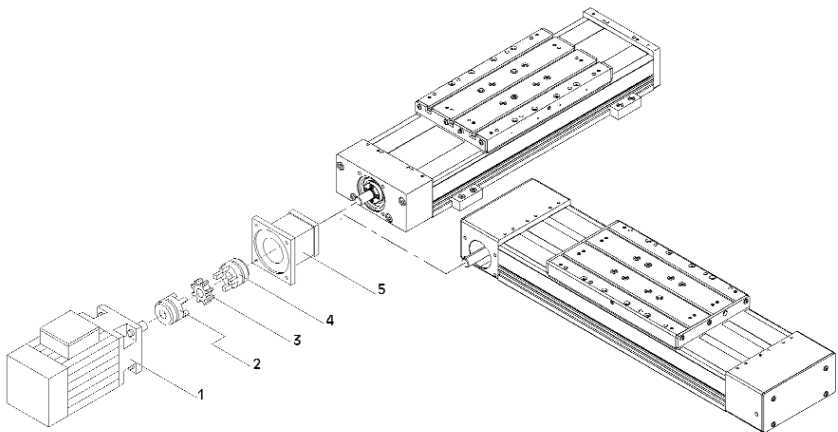

Fig. 9
- Fig. 9:** Place the motor (1) in mounting position beside the linear drive unit.
- Attach the coupling half (4) to the shaft of the linear drive unit.
- Attach the motor adapter flange (5) to the fixed bearing housing (6) with four screws.
- Push the toothed wheel (3) onto the coupling half on the linear drive unit.
- Mount the second coupling half (2) on the drive shaft of the motor.
- Attach the motor with the coupling half to the motor adapter flange (5) with four screws. Ensure that no axial pressure is exerted on the motor shaft. If necessary, correct the distance between the two coupling halves.